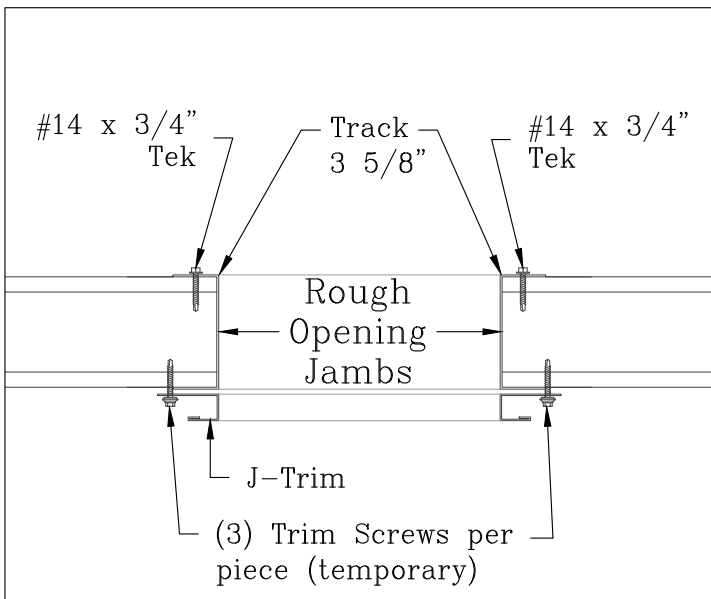

Figure 27-1
Trim the girts from the rough opening and install 3 5/8" track studs. Attach the track to the girts with 14 x 3/4" Tek-screws. To trim around the opening fasten J-trim (Figure 27-1) to each side of the door and J-trim above the opening as shown in (Figure 27-2). Use (3) trim screws per piece, but they can be removed as panel screws are put in.